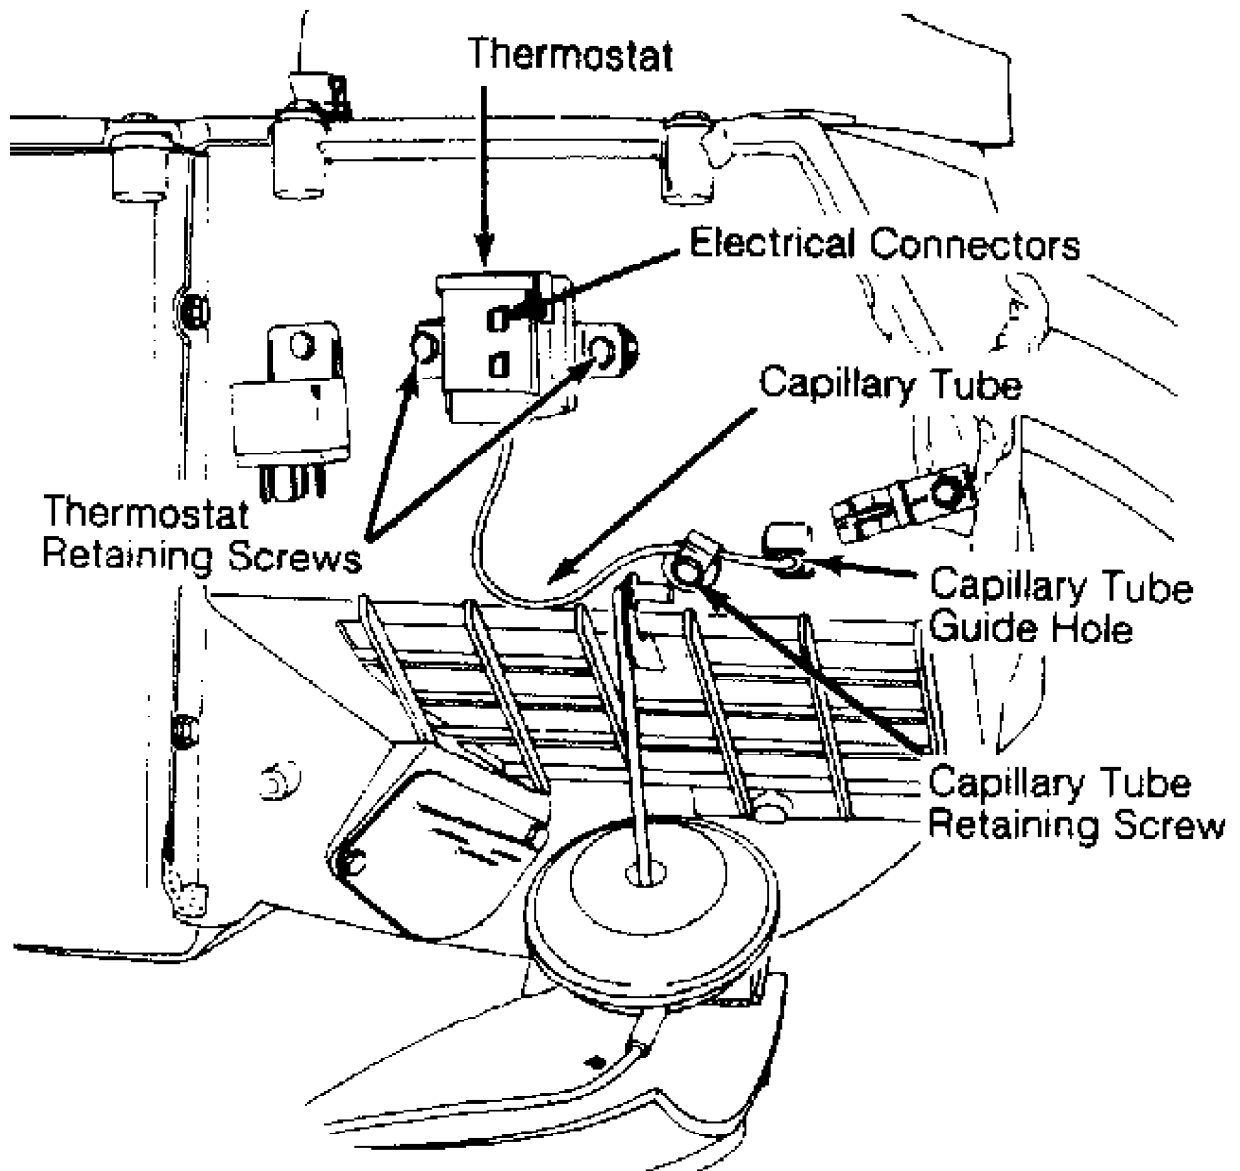

Fig. 3: Capillary Tube & Temperature Control Thermostat Locations Cherokee, Comanche and Wagoneer locations are shown.
1) Disconnect battery ground. Remove console (if equipped). Remove lower instrument panel. Disconnect electrical connection at thermostat. See Fig. 3.